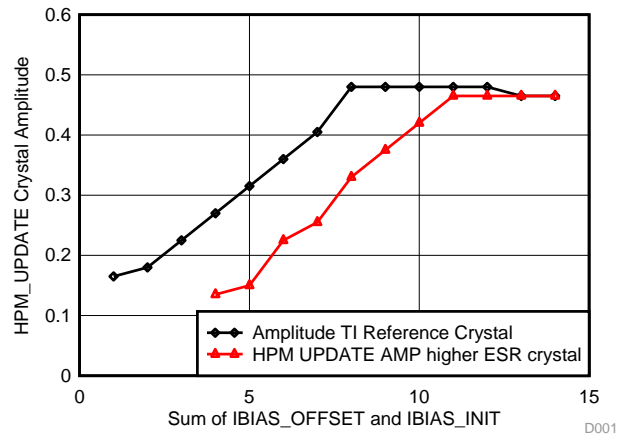

Figure 7. Amplitude Versus IBIAS_OFFSET + IBIAS_INIT
3. Generate a plot as Figure 7 shows.